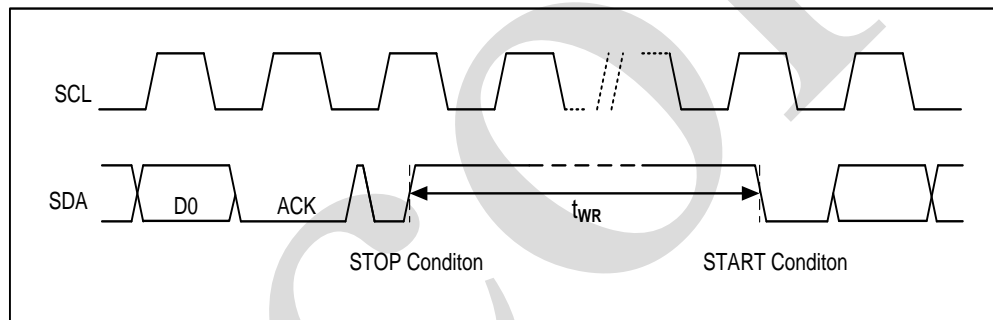

Figure 4-6
4.1.8、Write Cycle Timing(see to Figure 4-6)